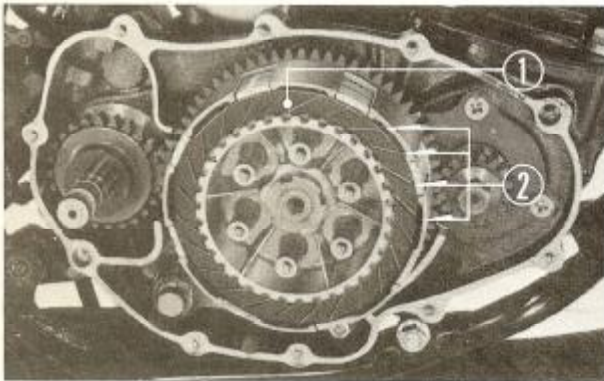

Fig. 3-19 ① Clutch friction disc
4. Install the six friction discs and five clutch plates on the clutch center (alternating the friction discs and clutch plates). The friction discs must be installed with the grooves facing in the direction shown in Fig. 3.19.